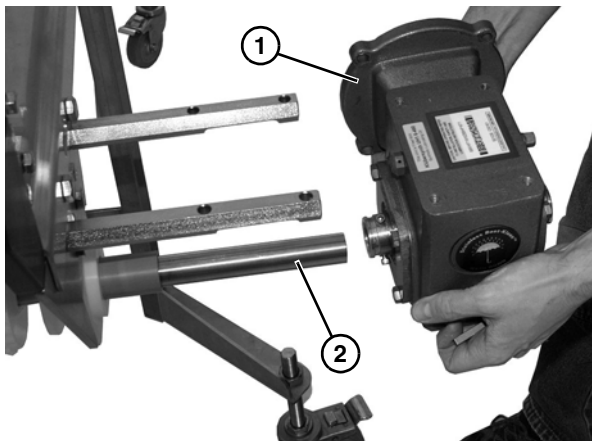

Figure 6
3. Slide the gearmotor assembly (**Figure 6, item 1**) onto the drive spindle (**Figure 6, item 2**).